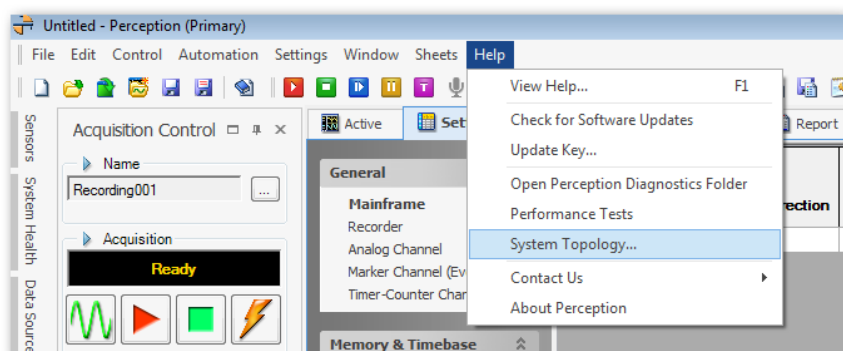

Figure 14.59: System Topology Help
- 1 In the menu bar choose **Help ► System Topology** (see Figure 14.59).